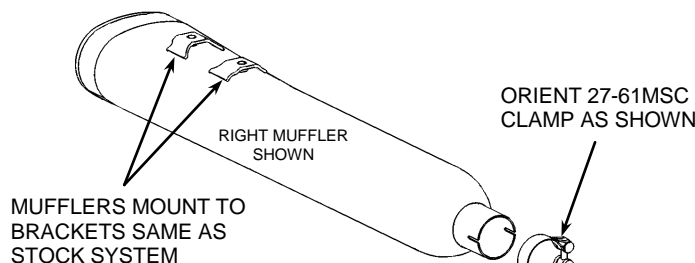

FIGURE 1
3. Slide the supplied 27-61MSC clamps over the slip-on mufflers and position them as shown in Figure 1 with the hex head facing inward and towards the ground.